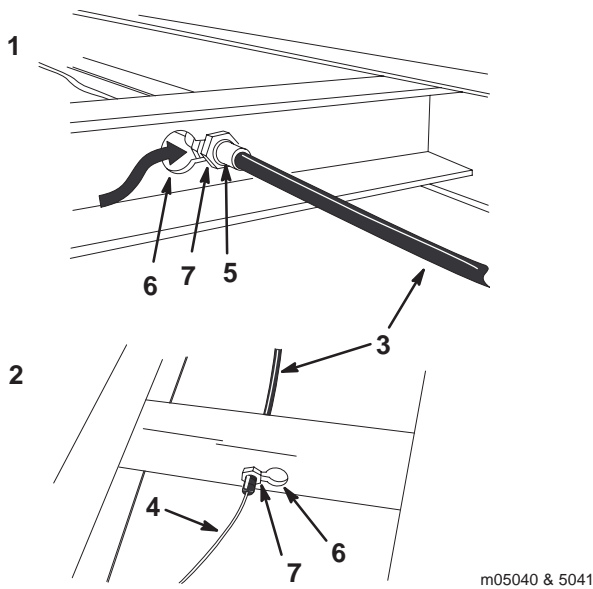

Figure 13
7. Slide the fitting through the slot and push it to the right, ensuring there is a jam nut on each side of the frame (Fig. 13).
13. Loosen the jam nuts and remove the cable from the keyhole slot in the blade frame (Fig. 13).